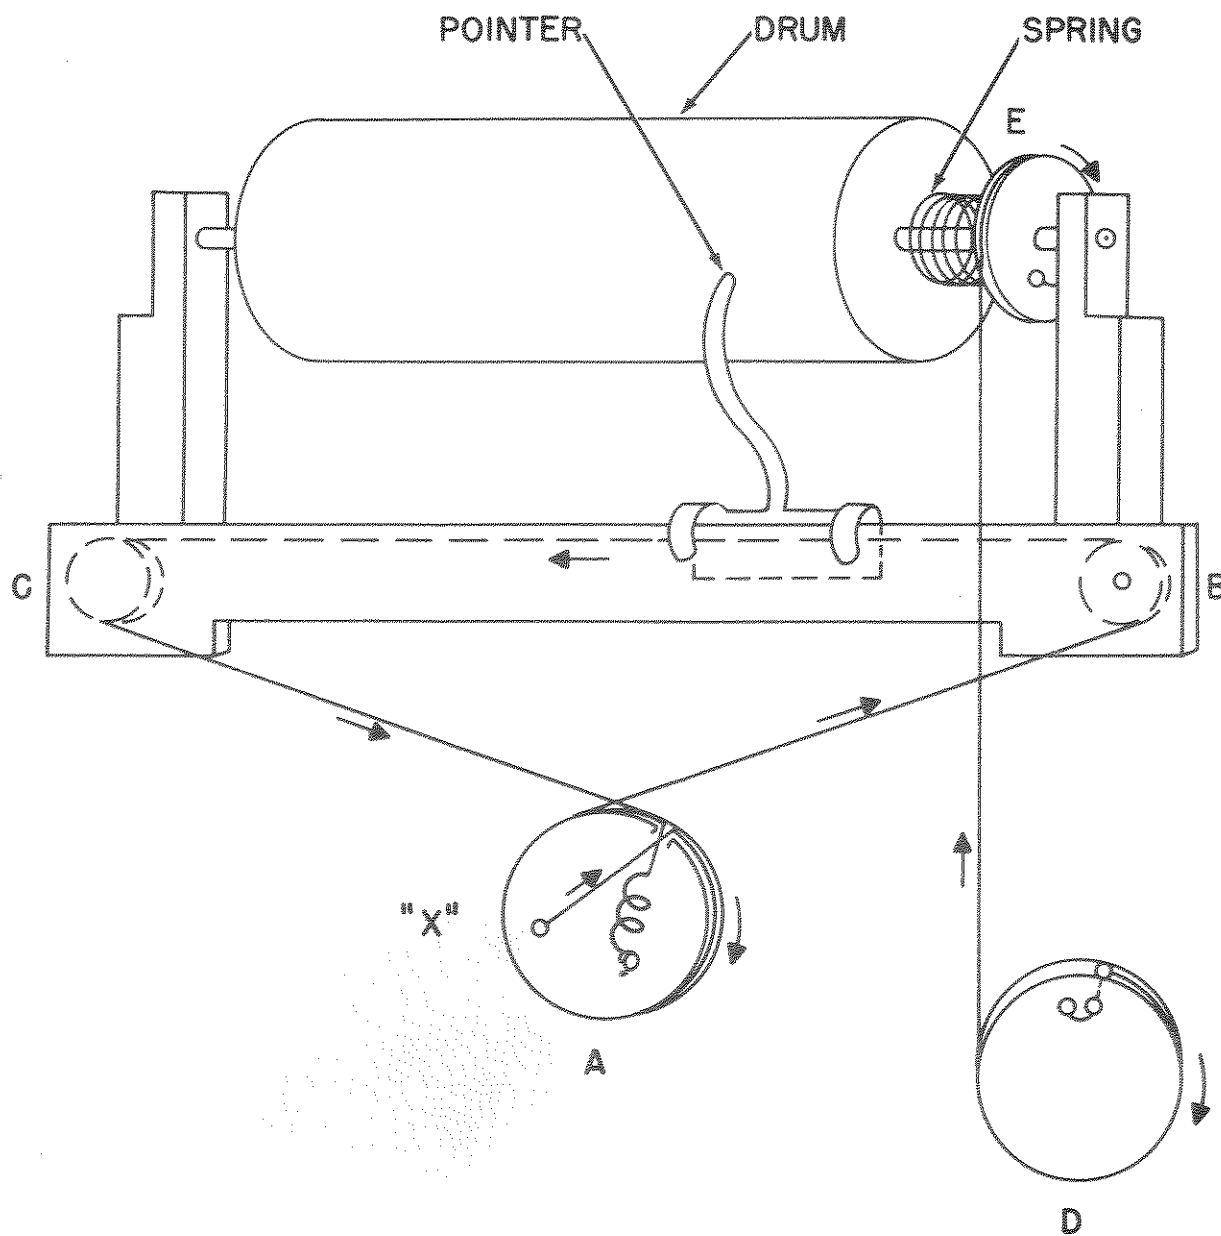

Figure 5-6. 51J-3 Dial Cord Arrangement
5.8.1. MEGACYCLE POINTER CORD. - Refer to figure 5-6. Remove the front panel according to directions in paragraph 5.6.2.(a). If the cord is to be replaced, use 36-5/8 inches of Collins number 432 1009 00 nylon-covered cord.
(b) Tie a loop in the cord. Loop the cord over the tab at point X in figure 5-6.
(b) Turn pulley E, figure 5-6, about one-half turn and hold tension of spring.